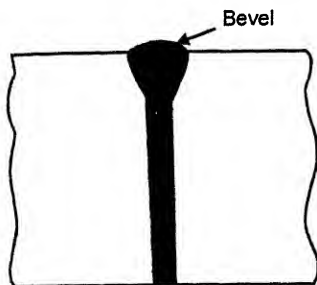

Fig. 13.34. Electro-beam welding.
*Electron-beam welding fusion joins metal by bombarding a specific confined area of the base metal with high velocity electrons.* The operation is performed in a vacuum to prevent the reduction of electron velocity. If a vacuum were not used, the electrons would strike the small particles in the atmosphere, reducing their velocity and decreasing their heading ability. The electron beam welding process allows fusion welds of great depth with a minimum width because the beam can be focused and magnified (Fig. 13.34). The depth of the weld bead can exceed the width of the weld bead by as much as 15 times. *The process joins separate pieces of base metal by fusing of molten metals. The melting is achieved by a concentrated bombardment of a dense stream of electrons, which are accelerated at high velocities, sometimes as high as the speed of light.* Under most circumstances the entire process is done inside a vacuum chamber.